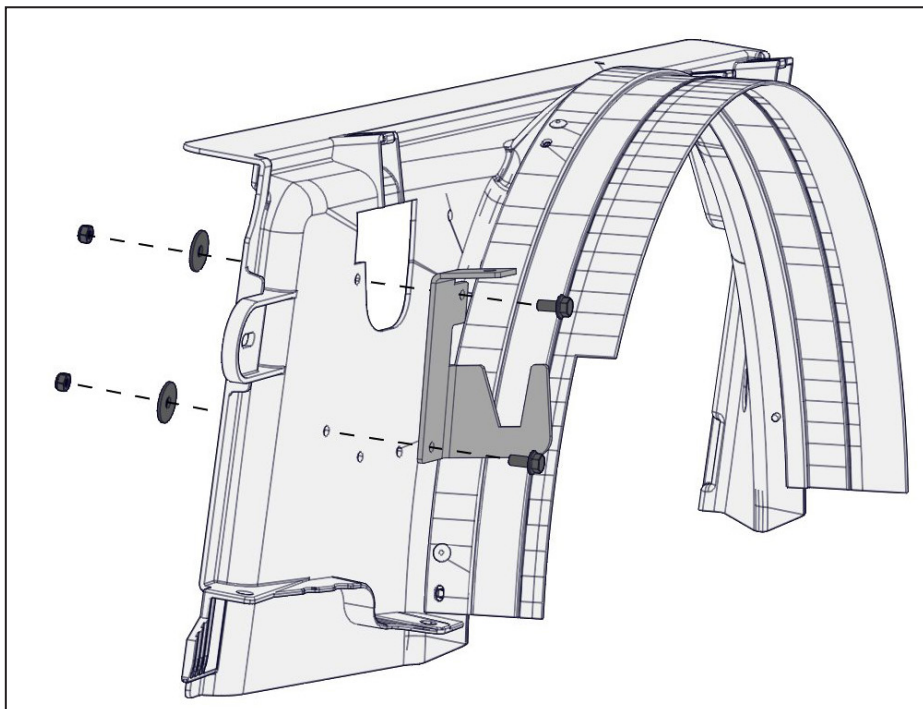

Figure 43 — Installing the power steering fluid reservoir bracket
- Install the supplied steering reservoir bracket to the shroud using (×2) of the supplied fasteners. Place the (×2) supplied fender washers on the radiator side of the fan shroud and secure with the supplied nylon lock nuts (Figure 43).